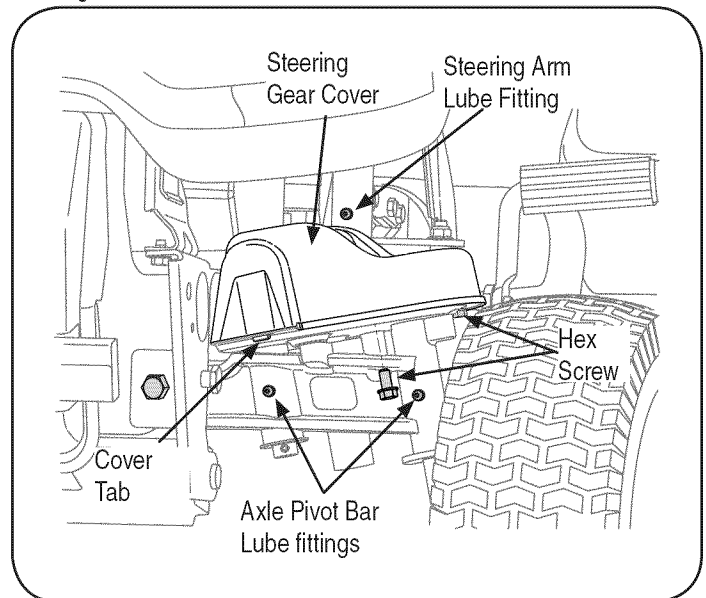

Figure 12
1. Apply grease through the lube fitting on the RH and LH (right hand and left hand, from operator's position) steering arms which are located at rearward end of the two steering drag links. See Figure 12.
2. Locate the lube fittings for the pivot shaft and axle on the front of one end of the axle pivot bar. Apply grease through the two lube fittings, then repeat to lubricate the other end of the pivot bar. See Figure 12.
1. From beneath the cover base plate on each end of the pivot bar, remove the three hex screws securing the steering gear cover. Remove the covers and clean the gears. It is not necessary to lubricate the gears. Refer to Figure 12.